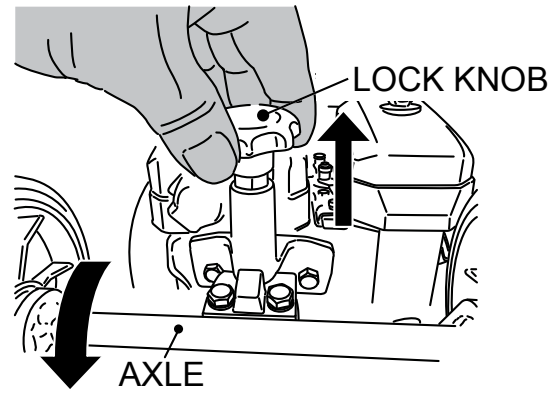

Figure 10. Releasing Lock Knob
5. Pull up lock knob to release the axle and let the wheels touch the ground (Figure 10).